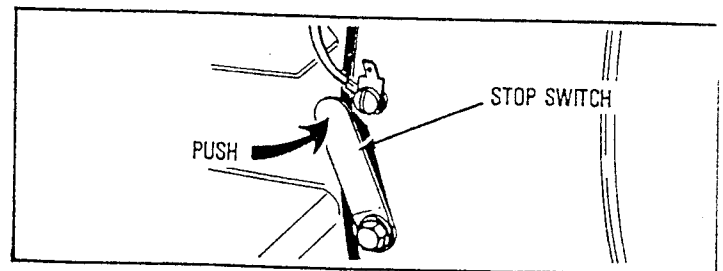
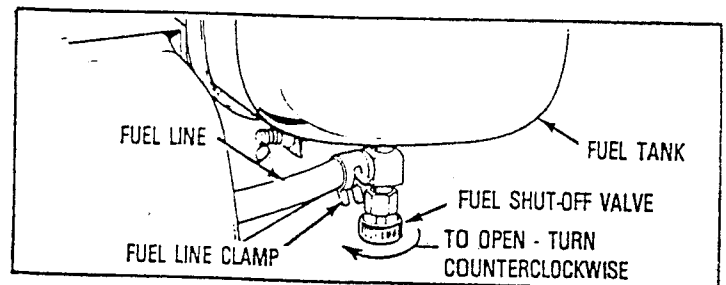

Figure 5
Figure 6
- D. Be sure FUEL SHUT-OFF VALVE (if so equipped) is open. (see Figure 6)
- ① Move remote control on equipment or any ignition stop switch on engine to **STOP** or **OFF** position (see equipment manufacturer's instructions).
- ② Push **STOP SWITCH** (if so equipped) (see Figure 5) and hold down until engine is completely stopped.
- ③ **AFTER ENGINE IS STOPPED:**
A. Close **FUEL SHUT-OFF VALVE** (if so equipped) (see Figure 6).